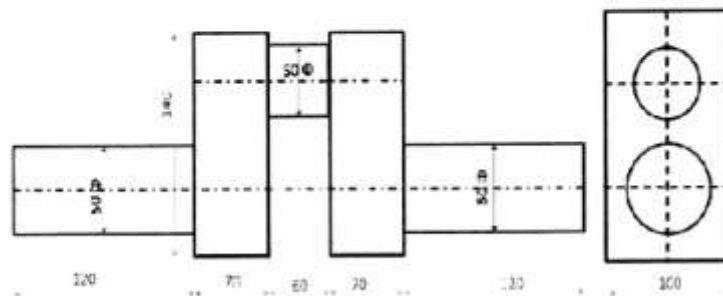

Figure 1
2. Calculate the cost of forging a crank shaft as show in figure 1 below using the following data available. The forging is to be made out of 50 mm dia.